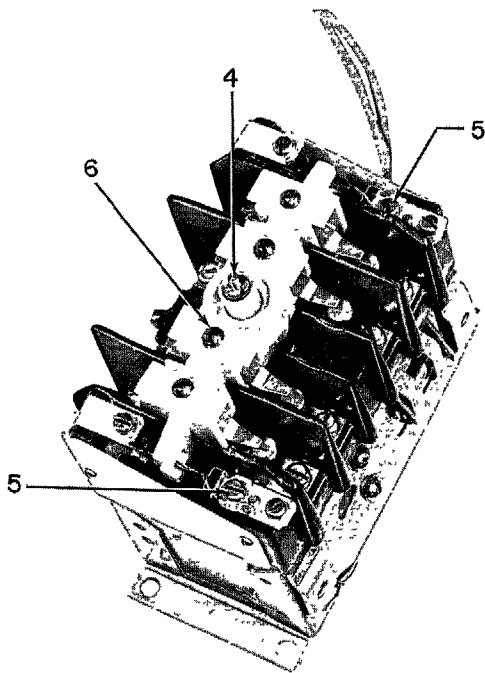
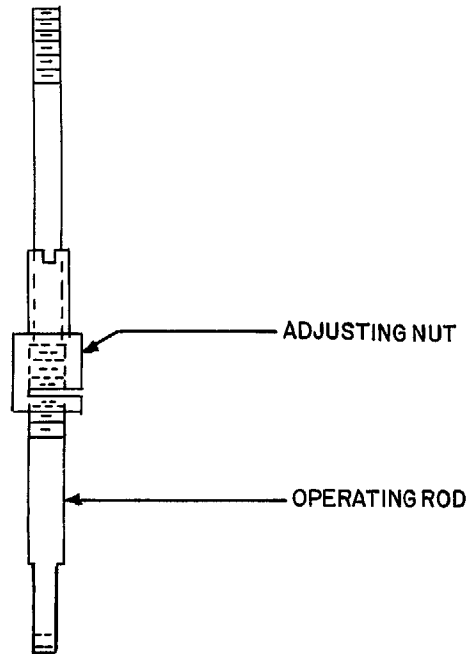

Fig. 1. IC5182-A120 multiple-pole relay
Fig. 4. Adjustment for wipe
To readjust the contact wipe, remove the nut (4), Fig. 1. Turn the adjusting nut shown in Fig. 4 using a screw driver or a spanner with a hollow shaft. Two or three trial adjustments may be necessary. The adjusting nuts should be tight on the shaft to maintain adjustment.
First remove the screws (5), Fig. 1 and take off the movable spring contacts from the end interlocks. Remove the nut (4) from the center of the movable contact support and lift off the contact support.
To change the movable contact tips of the interlocks, remove screws (5), Fig. 1, install new tips, and replace screws.
To change a normally open stationary tip, it is necessary to remove the movable contact support by removing nut (4), Fig. 1. Then remove the entire stationary contact head by first removing the four corner screws and then removing, from the back, the holding screw for the stationary tip.